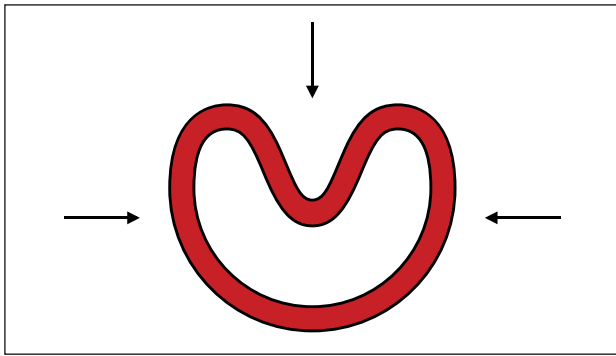

Figure 15: Deformation of the seal ring into kidney-shape.
- Compress the seal into a kidney shape, avoiding sharp bends (see figure 15). When folding a rod seal with notches, be cautious to avoid bending at the notches to prevent overstretching or damaging the seal material.